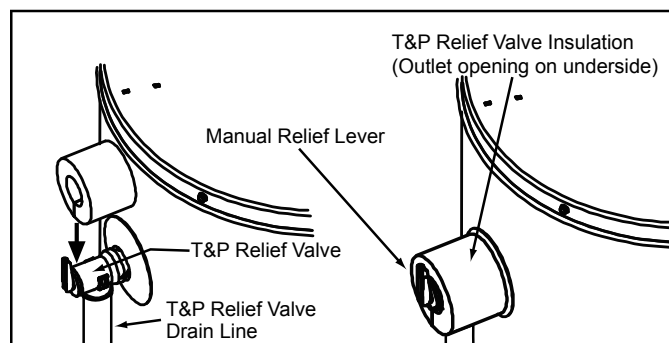

Figure 16
Locate the temperature and pressure relief valve on the water heater (also known as a T&P relief valve). See Figure 16.
2. Spread the slit open and fit the insulation over the T&P relief valve. See Figure 16. Apply gentle pressure to the insulation to ensure it is fully seated on the T&P Relief Valve. Once seated, secure the insulation with duct tape, electrical tape, or equivalent. **Important:** The insulation and tape must not block the discharge opening or hinder access to the manual relief lever (Figure 16). Ensure a discharge pipe is installed into the T&P valve discharge opening per the instructions in this manual.